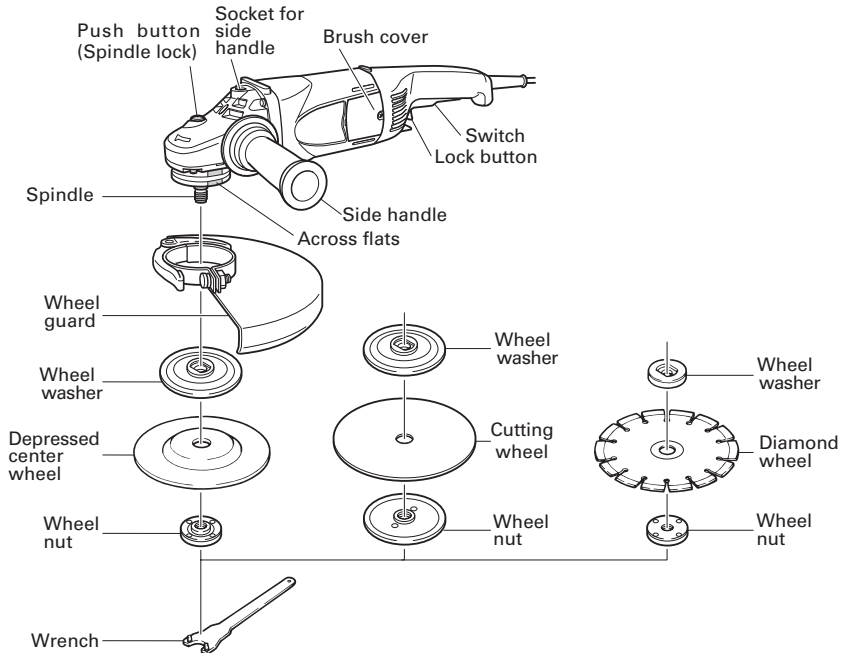

Fig. 3
Confirm that the spindle lock is disengaged by pushing push button two or three times before switching the power tool on (See Fig. 3).
### 1. Assembling (Fig. 3)
- (5) Insert the push button to prevent rotation of the spindle, and tighten the wheel nut with the accessory wrench, as shown in Fig. 3.